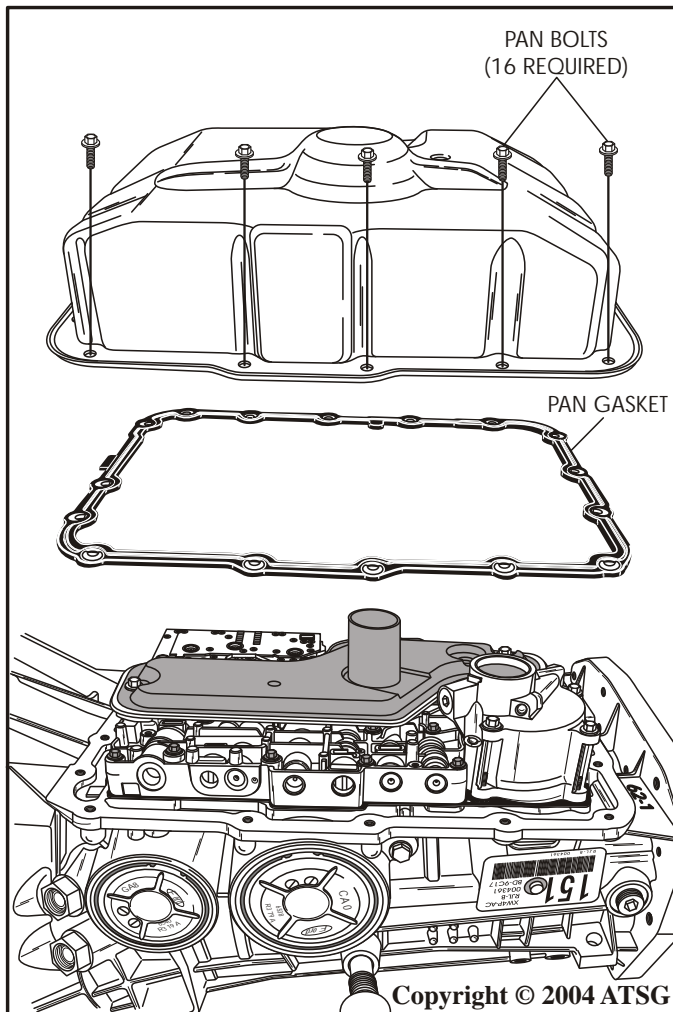

Figure 28
10. Remove the sixteen bottom pan bolts using an 8mm socket and remove oil pan, as shown in Figure 28.
11. Remove the bottom pan gasket from the case, as shown in Figure 28.